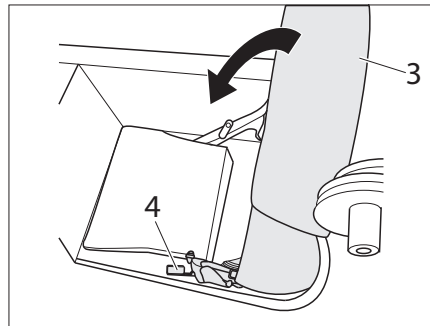

Fig. 209 Move the seat back into the storage box
- Engage lever 2 (Fig. 209,4) and move the seat back (Fig. 209,3) into the storage box.